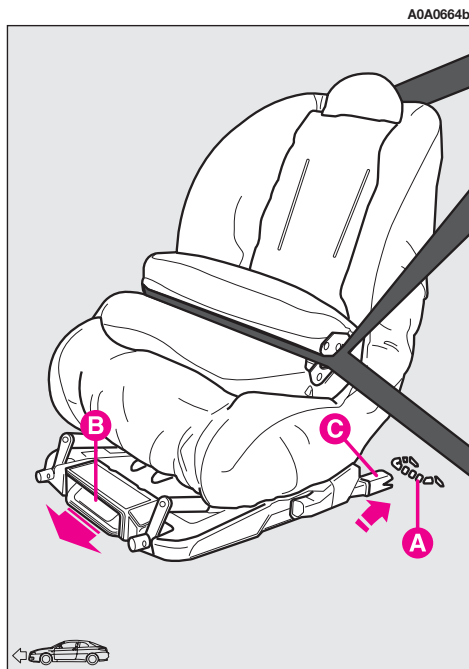

fig. 49
- check whether the release lever (**B**-fig. 49) is at rest position (inward);